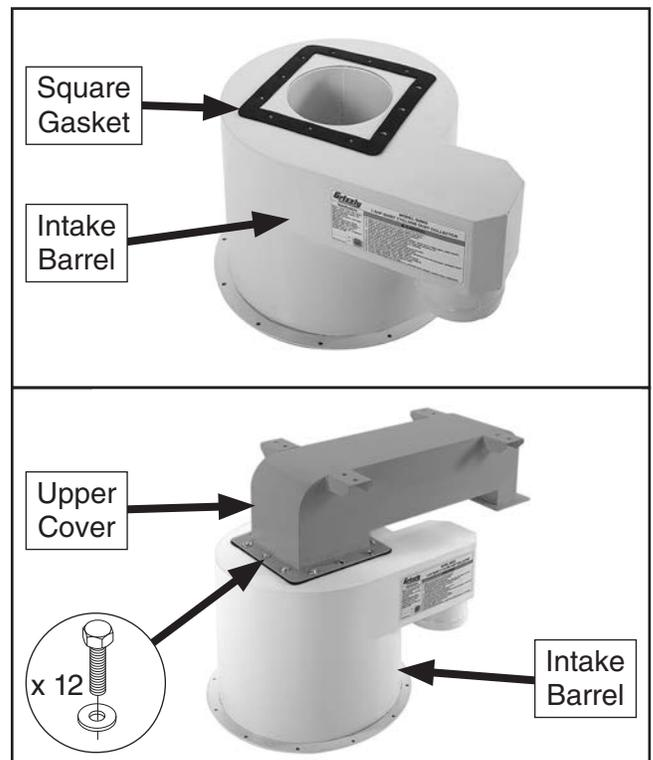

Figure 16. Upper cover attached to intake barrel.
- Place square gasket on intake barrel (see **Figure 16**, inset), then attach upper cover to intake barrel using (12) $\frac{5}{16}$ "-18 x $\frac{3}{4}$ " hex bolts and (12) $\frac{5}{16}$ " fender washers (see **Figure 16**). Tighten in star pattern.